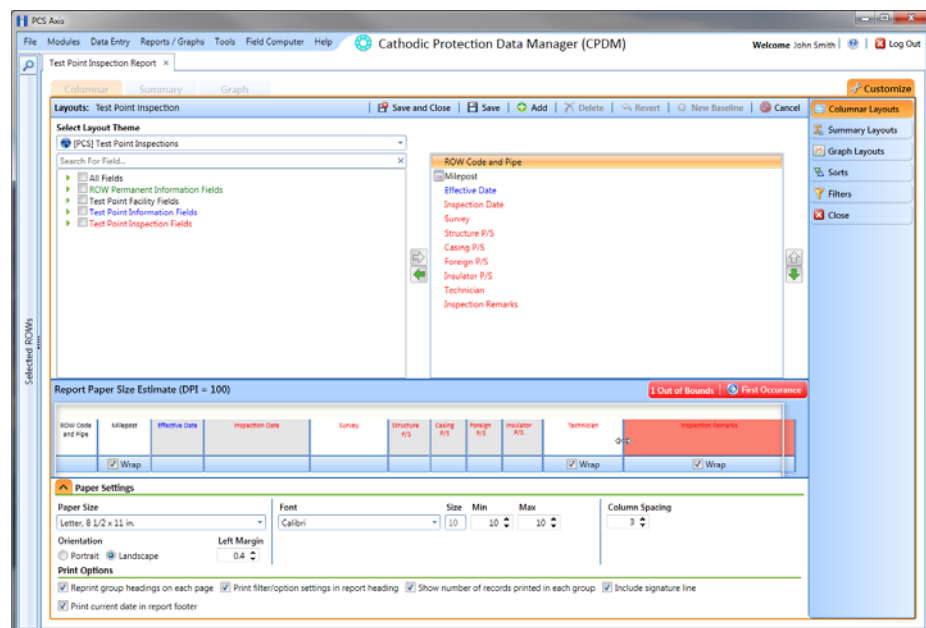

Figure 14-32. Columnar Layouts
- 8 Complete the following steps to add and remove fields in the report layout theme as needed (Figure 14-32, page 569):
- 10 Click  **Paper Settings** to open the property settings panel (Figure 14-32, page 569).
- a Place the mouse over a column boundary to change the cursor to a horizontal resize cursor  (Figure 14-32).